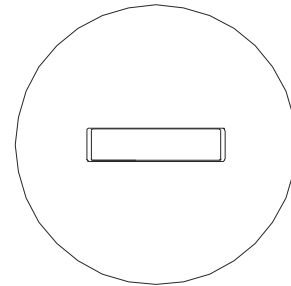

Fig. 8
- Break the protective label in the center of the rough-in cover to expose a slot. See Fig. 8